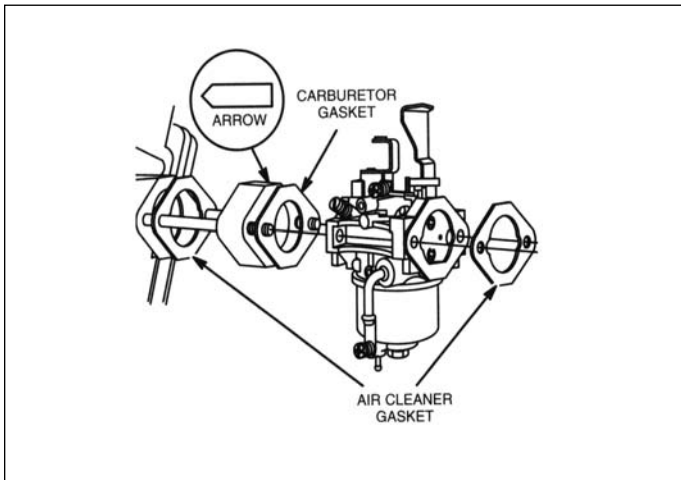

Figure 36 - Installing Carburetor Spacer
1. Place carburetor manifold gasket on carburetor mounting studs. Install carburetor spacer on studs with arrow towards cylinder head See Figure 36.
2. Place new carburetor gasket on carburetor mounting studs. See Figure 36.
3. Slide carburetor onto studs. See Figure 36.